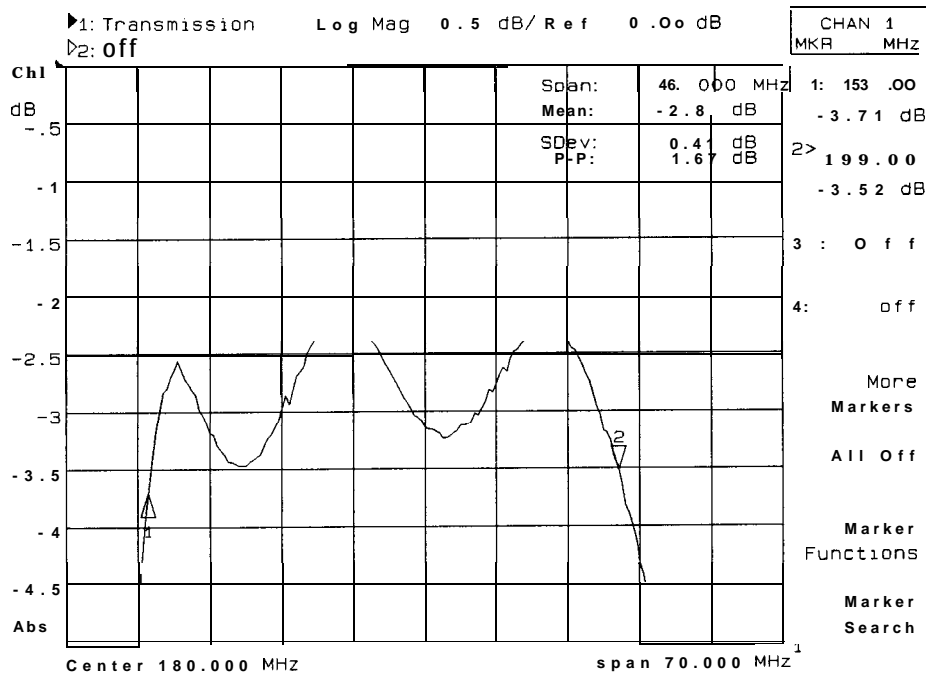

Figure 4-12. Marker Statistics Function
3. Figure 4-12 shows a defined trace segment. Notice the marker readout in the upper right corner of the display.